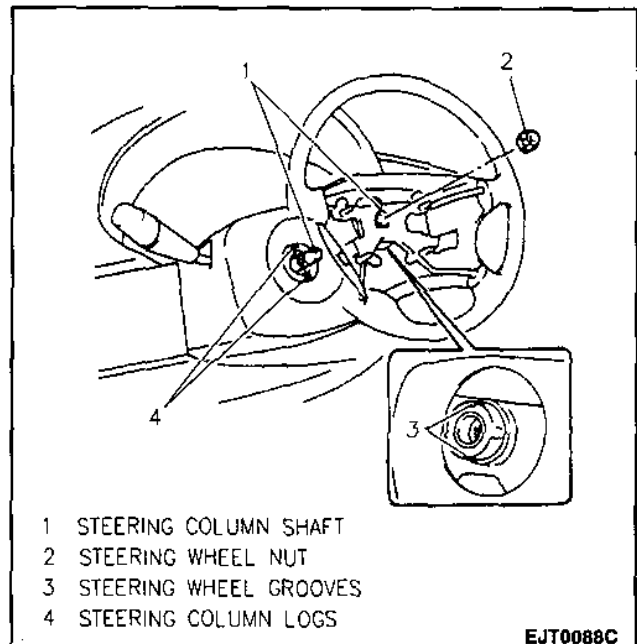

Figure 6—Aligning Steering Wheel To Sir Coil
- When installing the steering wheel, the two lugs on the SIR coil must line up with the two grooves on the back side of the steering wheel or the SIR coil will be damaged when turning the steering wheel (Figure 6).